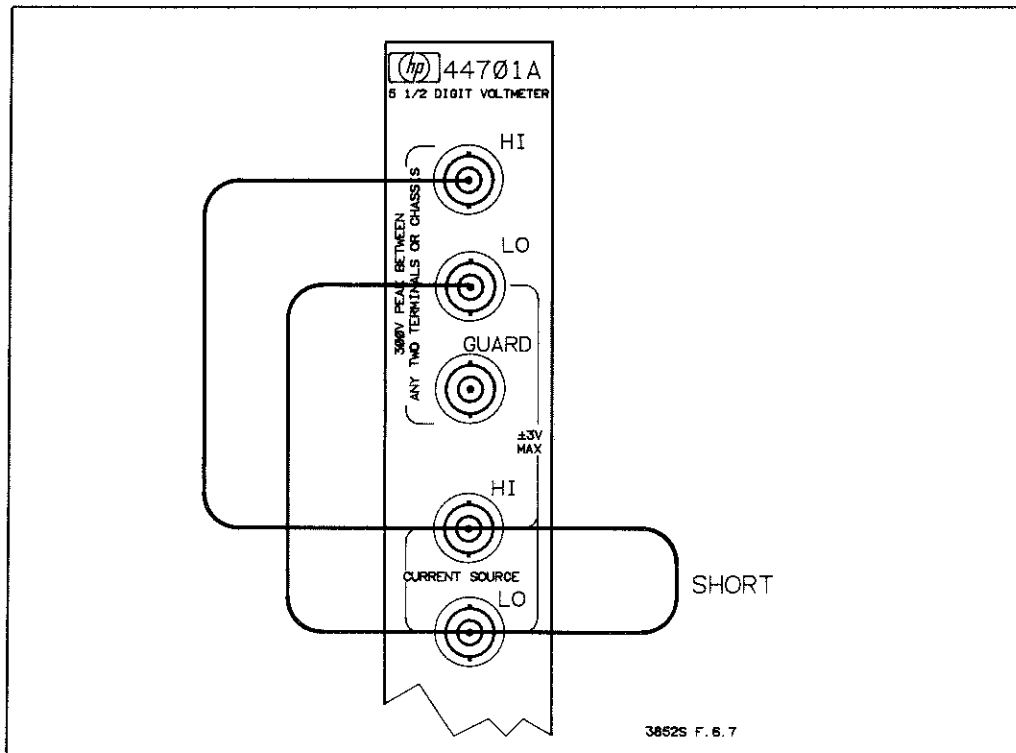

Figure 6-7 Ohms Offset Calibration
3. Connect the HP 44701A rear panel Current Source HI Output Terminal to the rear panel HI Input Terminal. Connect the rear panel Current Source LO Output Terminal to the rear panel LO Input Terminal. Connect a low thermal short across the rear HI and LO Input Terminals of the HP 44701A Integrating Voltmeter accessory. The connections are shown in Figure 6-7.